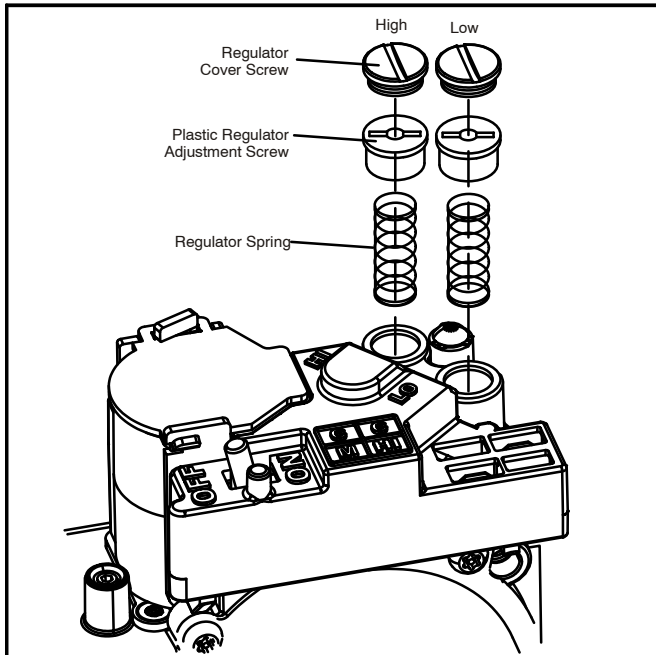

FIGURE 2
- a - Remove both high fire and low fire springs from the gas valve. See figure 2.